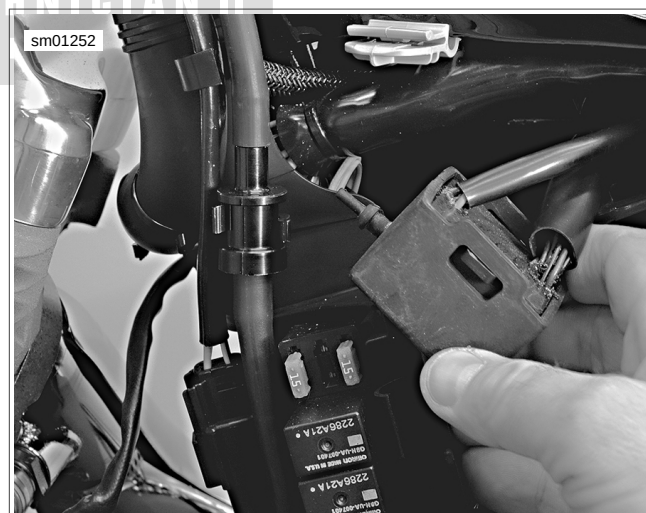

Figure 6-96. Removing/Installing Converter Module
6. See Figure 6-96. Reach up under frame "Y" section and pull converter module down. Carefully remove module and interconnect harness assembly from vehicle.
1. See Figure 6-96. Feed converter module/interconnect harness connectors up through battery compartment, forward of battery strap bracket.